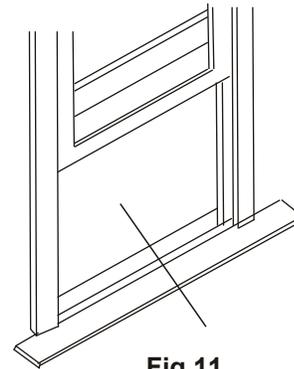

Fig.11
1. Open window and mark center of window sill. (Fig. 11)